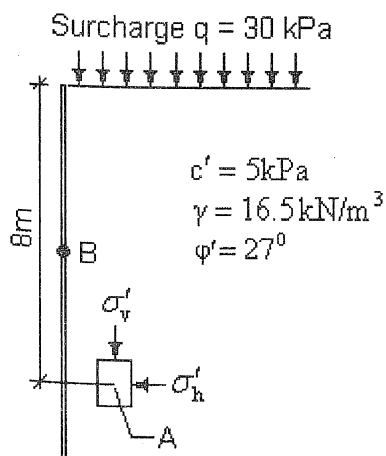

Figure Q5
5. Figure Q5 shows a soil mass retained by a sheet pile wall. The soil mass is also subjected to a surcharge load of 30 kPa acting along the length of the sheet pile wall.